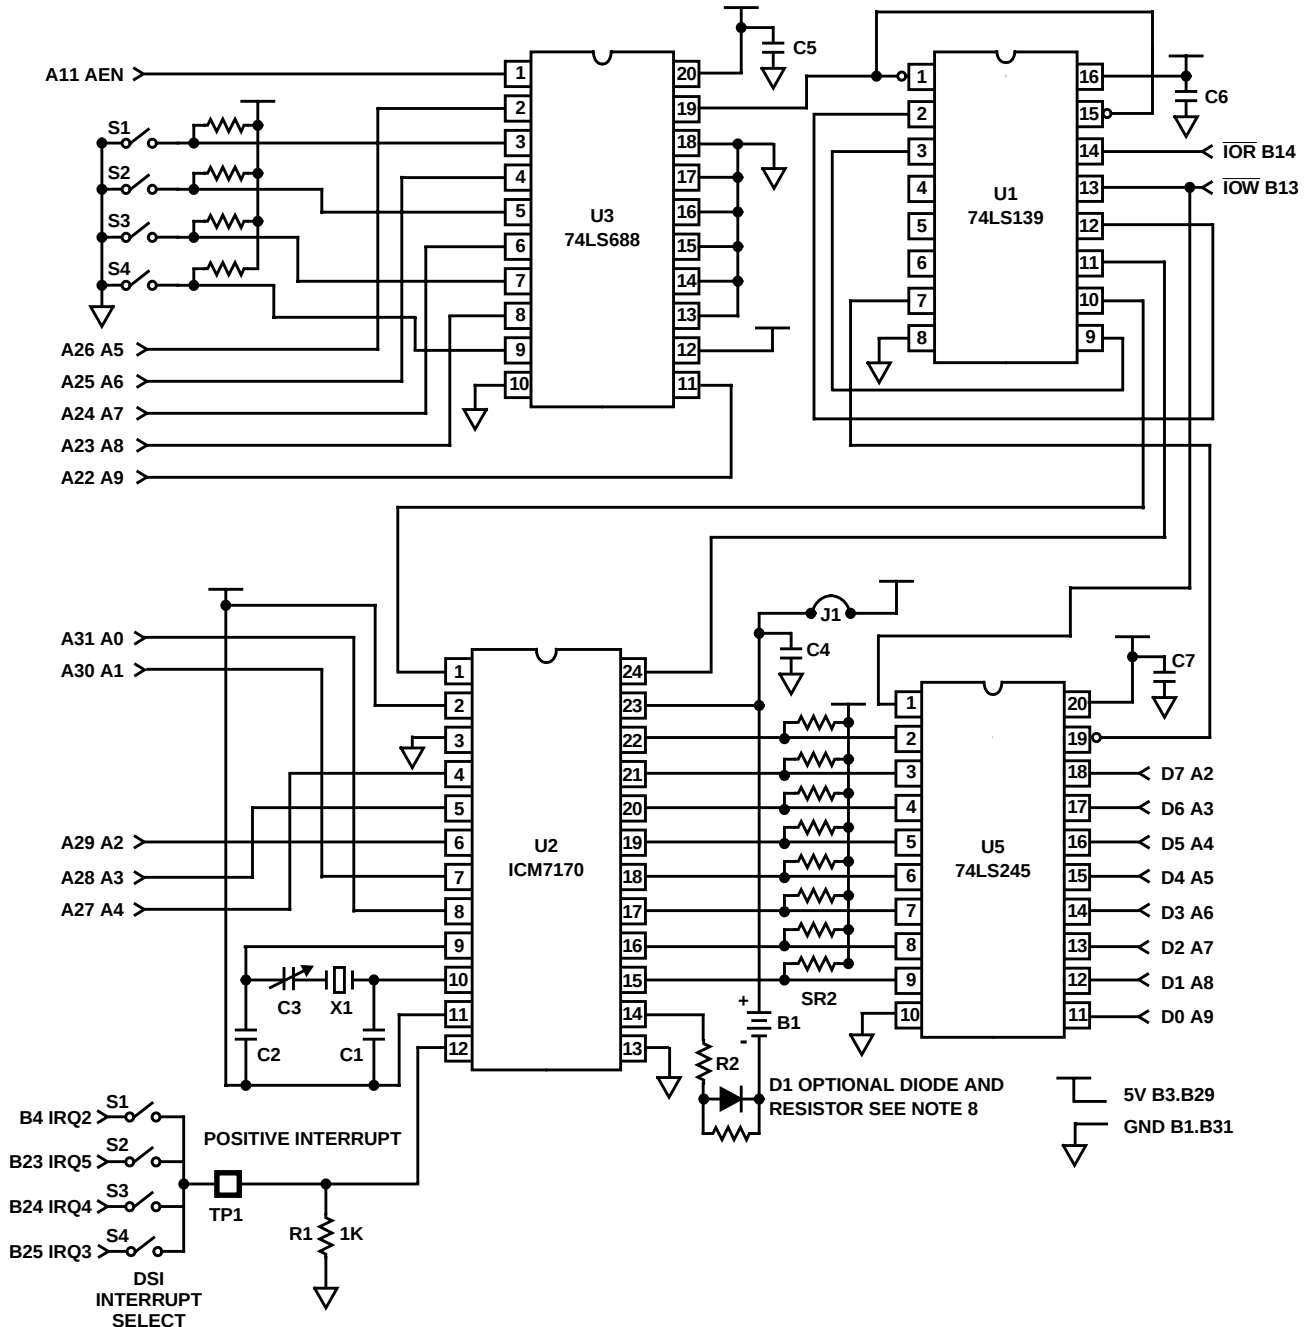

FIGURE 9. IBM PC INTERFACE FOR ICM7170Y
Figure 9 shows the schematic of a board that has been designed to plug into an IBM PC/XT (Note 1) or compatible computer. In this example $\overline{CS}$ is permanently tied low and access to the chip is controlled by the $\overline{RD}$ and $\overline{WR}$ pins. These signals are generated by U1, which gates the IBM's $\overline{IOR}$ and $\overline{IOW}$ with a device select signal from U3, which is
8. **V_{BACKUP} DIODE** - Lithium batteries may explode if charged or if discharged at too high a rate. These conditions could occur if the battery was installed backwards or in the case of a gross component failure. A 1N914-type diode placed in series with the battery as shown in Figure 9 will prevent this from occurring. A resistor of 2M Ω or so should parallel the diode to keep the V_{BACKUP} terminal from drifting toward the V_{SS} terminal and shutting off ICM7170 I/O during normal operation.